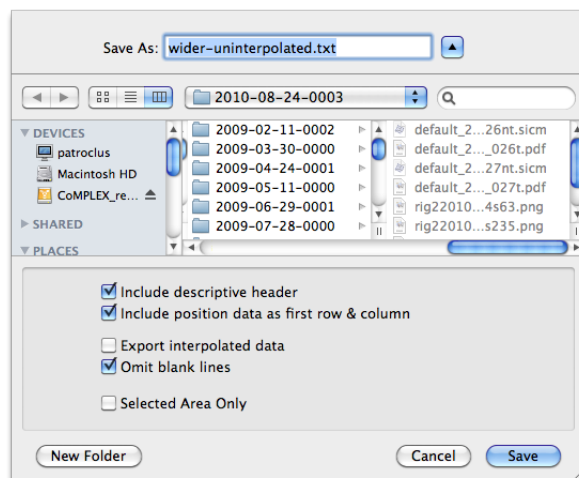

Figure 11: Text Export Options
**File** → **Export** → **Text...** saves the frontmost image as tab-delimited text, suitable for import into other analysis software such as R, Matlab or Excel. The main data content is just a table of Z position measurements in  $\mu\text{m}$ . There are several export options, as illustrated in Figure 11.